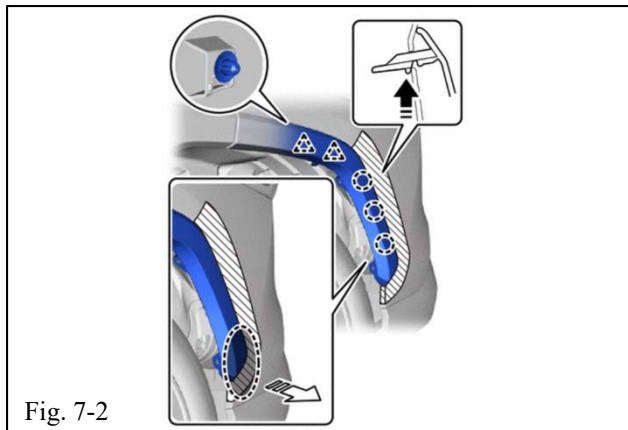

Fig. 7-2
(4) Pull back the edge of the rear wheel house liner LH and detach the 3 claws (circles) by pushing the area indicated by the arrow with a finger (Fig. 7-2).
(5) Detach the clip and disconnect the rear quarter outside molding sub-assembly LH in the direction shown.